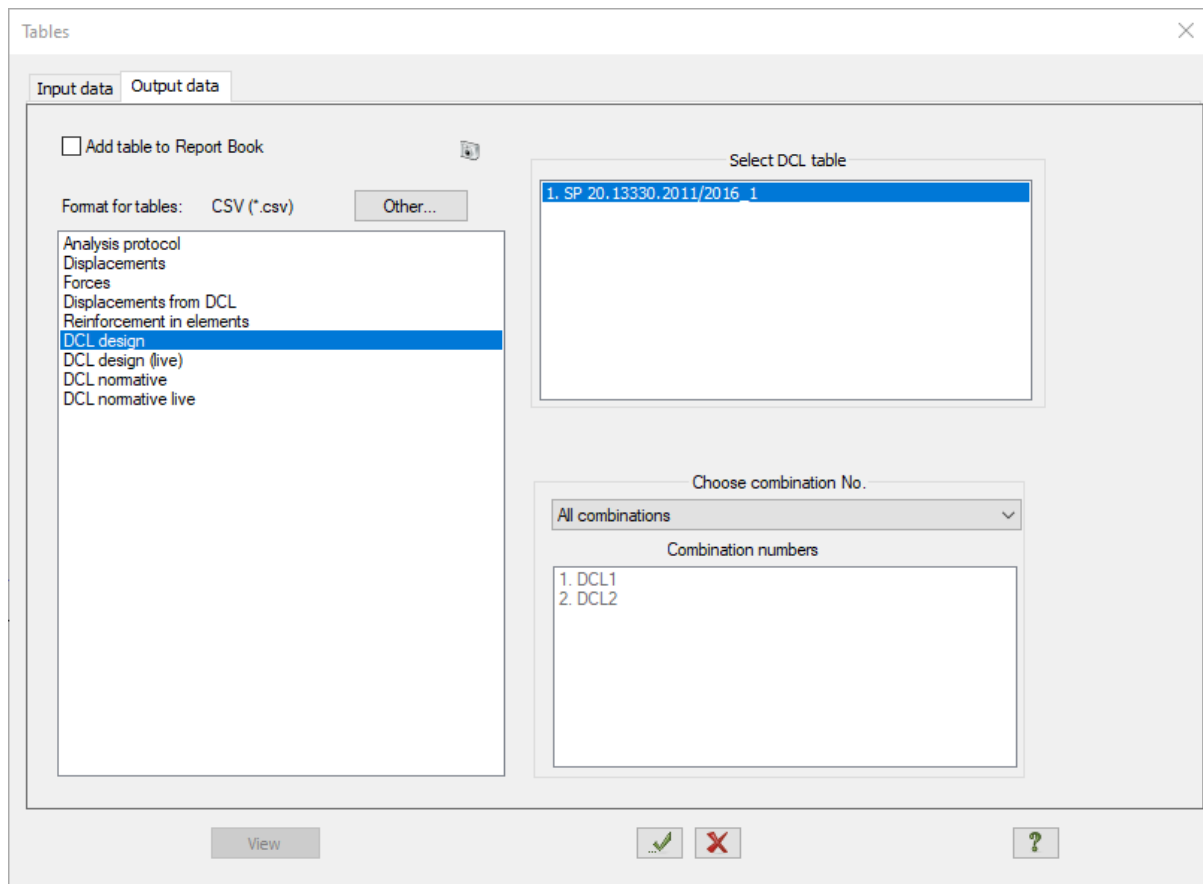

Figure 19.26 **Standard tables** dialog box
- ⇒ In the **Standard tables** dialog box (see Fig.19.26), select **DCL design** in the list.